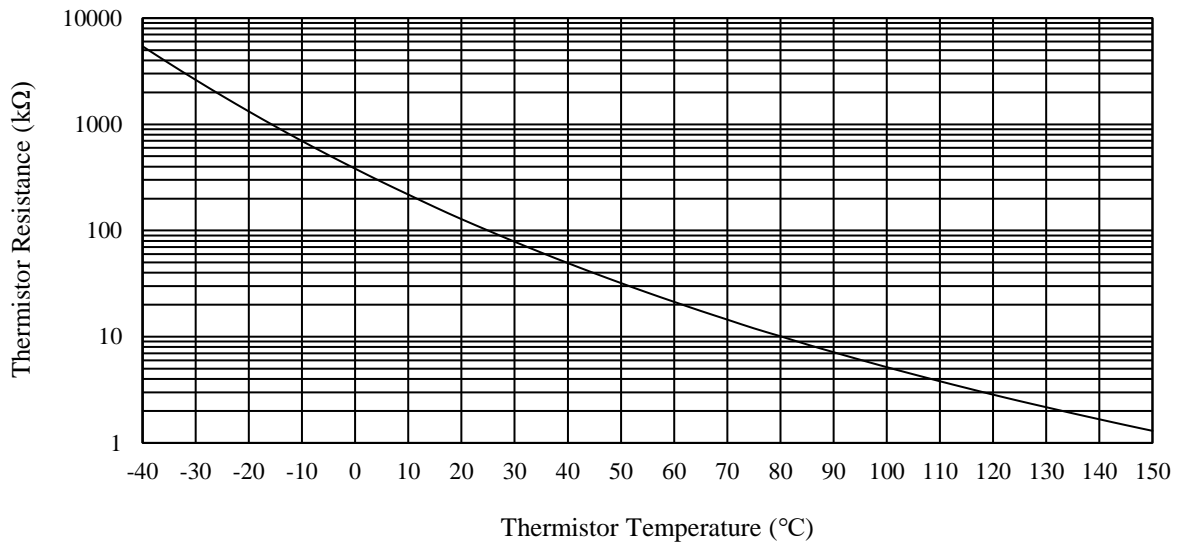

Figure 5-3. Reference Thermistor Resistance
(2) For the reference thermistor resistance, see Figure 5-3 and Table 5-1.